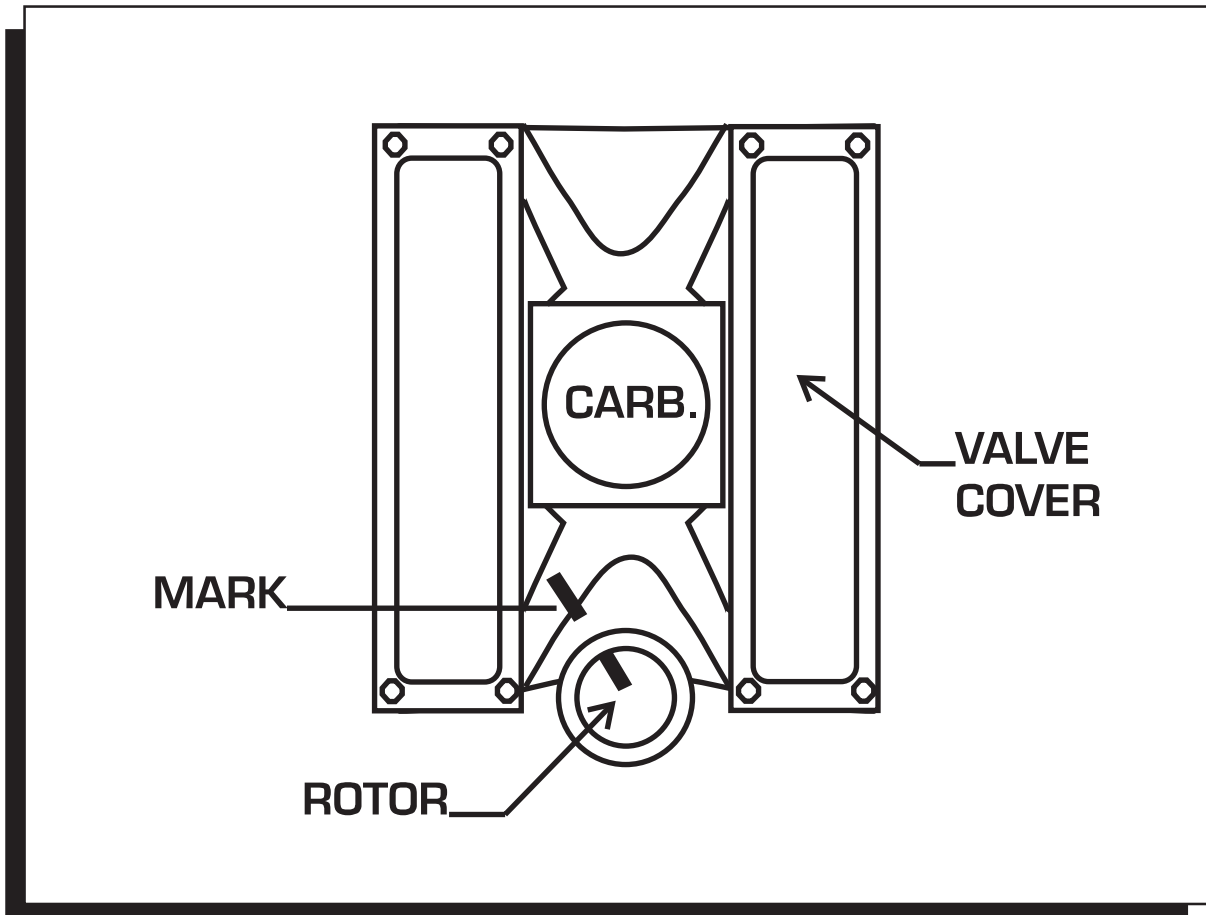

Figure 7 Marking the Rotor Location.
2. With the cap off, crank the engine until the rotor is aimed at a fixed point on the engine or firewall. Note this position by making a mark (Figure 7).